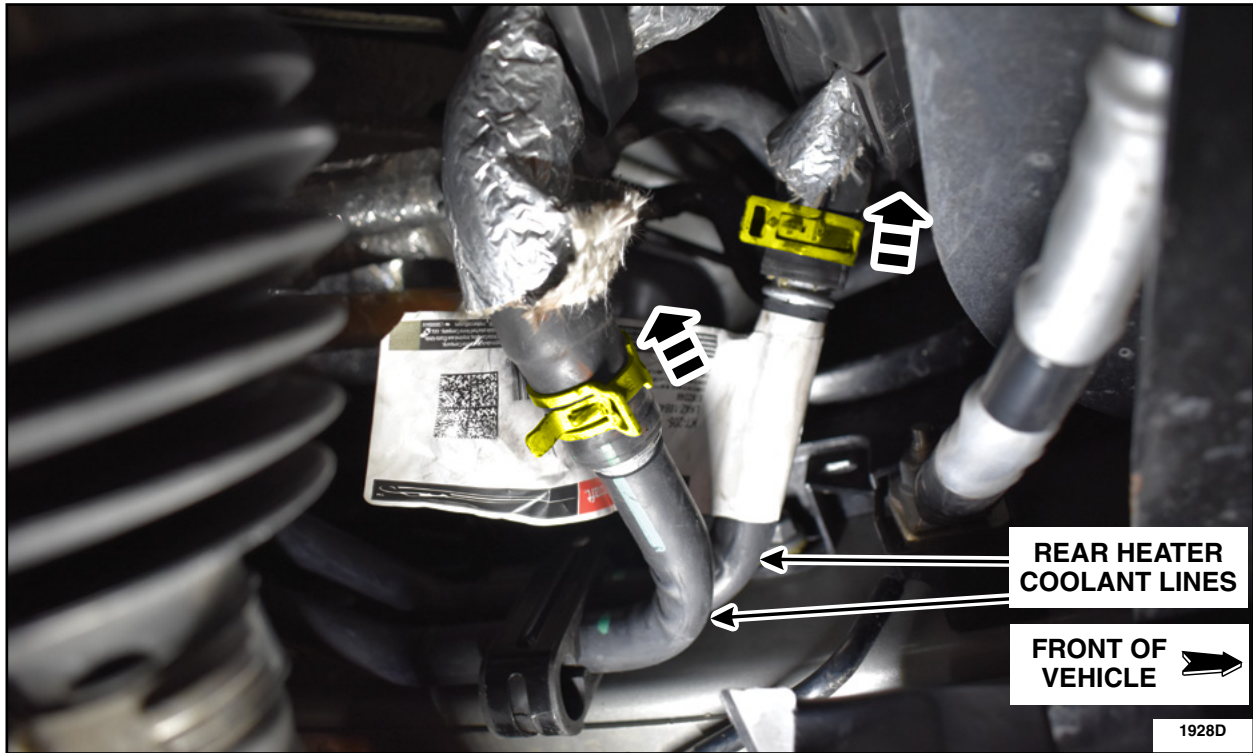

FIGURE 4
6. Position aside the front LH hose clamps of the rear heater coolant lines located by the front LH halfshaft. See Figure 4.